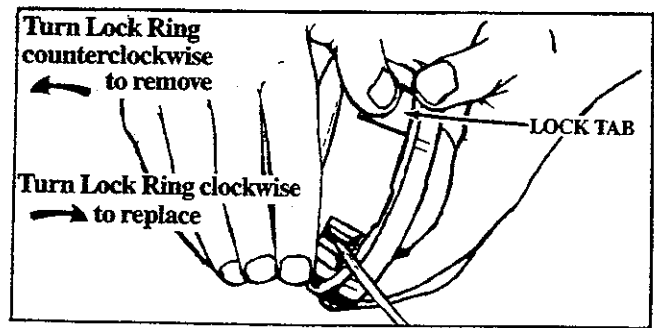

Figure 16
- Hold the Trimmer Head as shown in Figure 16. Press the Lock Tab and turn Cover counterclockwise ←.
- Align the Lock Ring over the three Catches on the Hub. Push the Lock Ring down on the Hub and turn clockwise →. Figures 16 and 17.